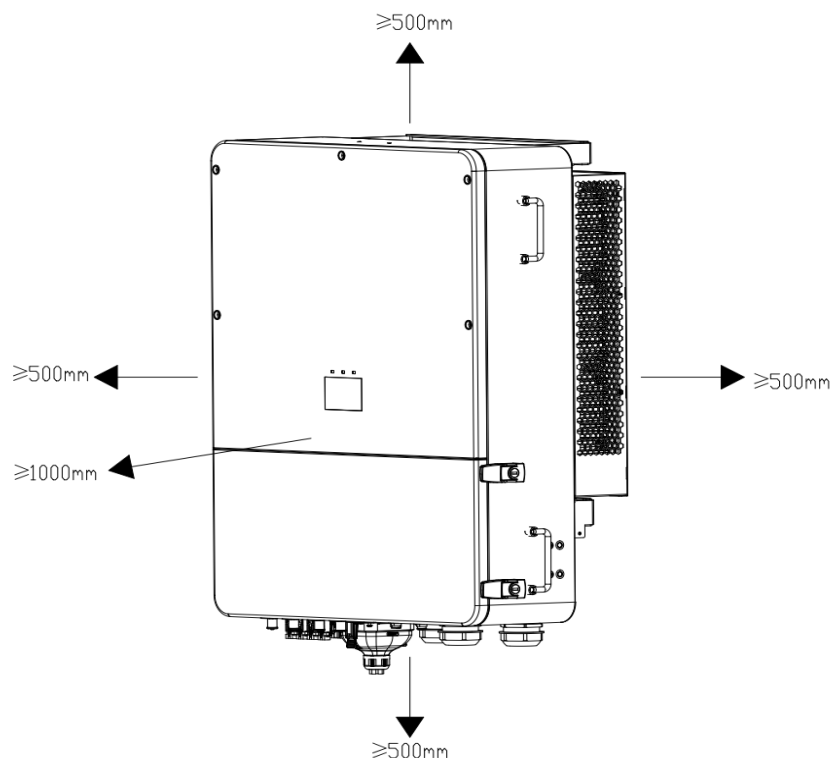

Figure 4-4 Installation spacing of inverter
- There should be enough space reserved around the installation position to facilitate the disassembly of the inverter and air convection, as shown in Figure 4-4.